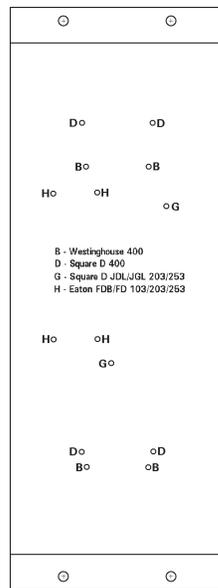

Figure 5
2. Place the Operator on the Breaker Mounting Plate (ENTRON P/N 530026F or later) aligning the mounting holes on the Operator with the “H” designated mounting holes on the Plate (note plate orientation in Figure 5).